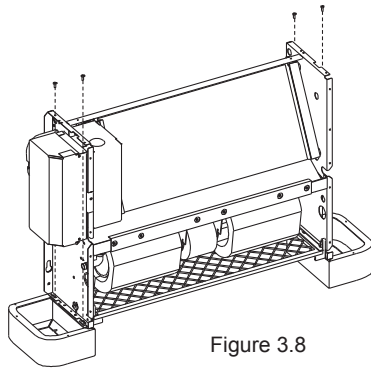

Figure 3.8
- Put the air conditioner on the mounting bracket, and secure it with screws (refer to Figure 3.8).